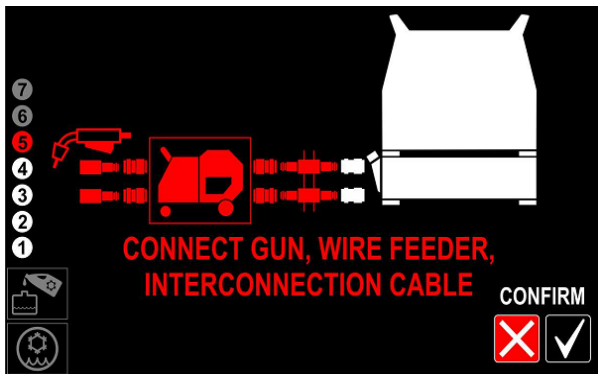

Figure 18
- Connect the torch hoses and interconnection cable when using power source with separate wire feeder – (Figure 18 or 26).